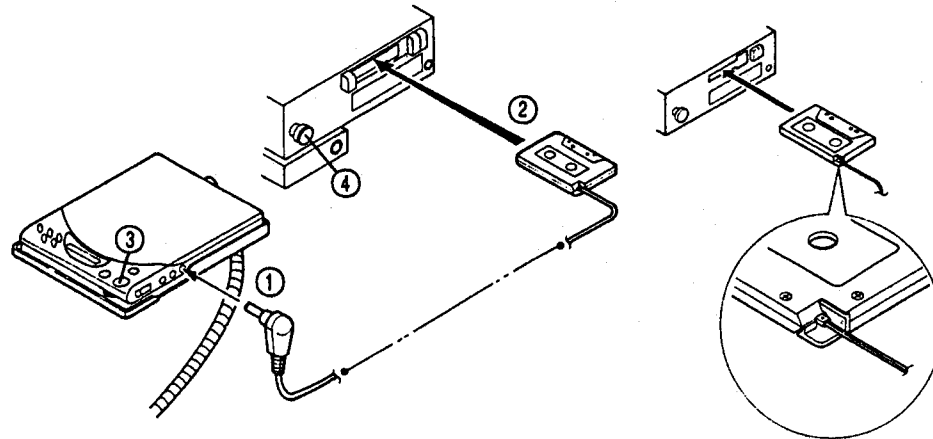

Fig. 3
- Load the cassette adapter so that the cord attached to the cassette adapter is towards you as shown in Fig. 3, to avoid any malfunction.